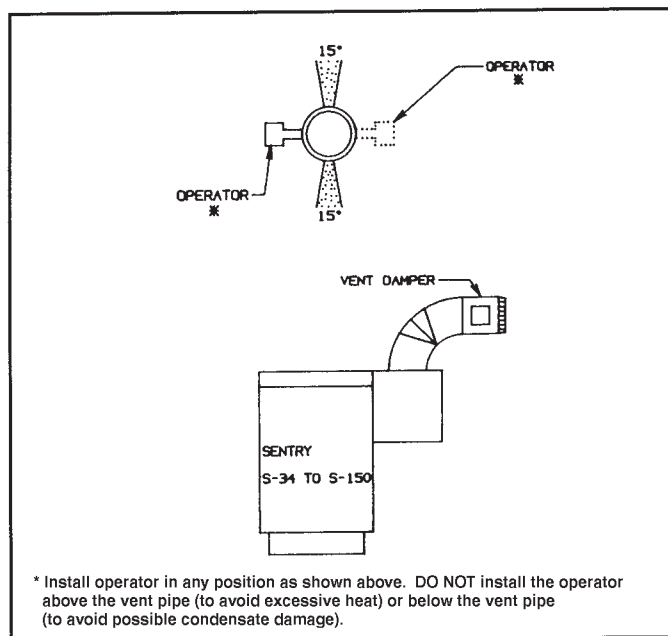

Figure 2. Horizontal Installation of Vent Damper
* Vent damper may be installed horizontally on all models with use of a vent elbow. For more information, see figure 2, page 5.